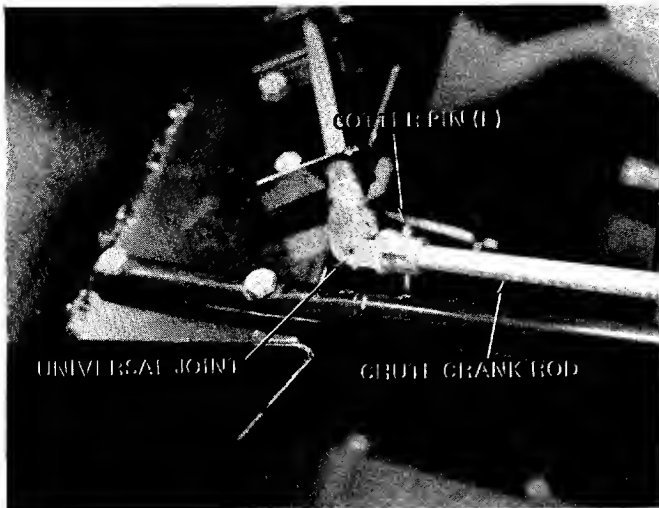

FIGURE 26
13. Slip the end of chute crank rod into the universal joint. Secure with cotter pin (L). See figure 26.